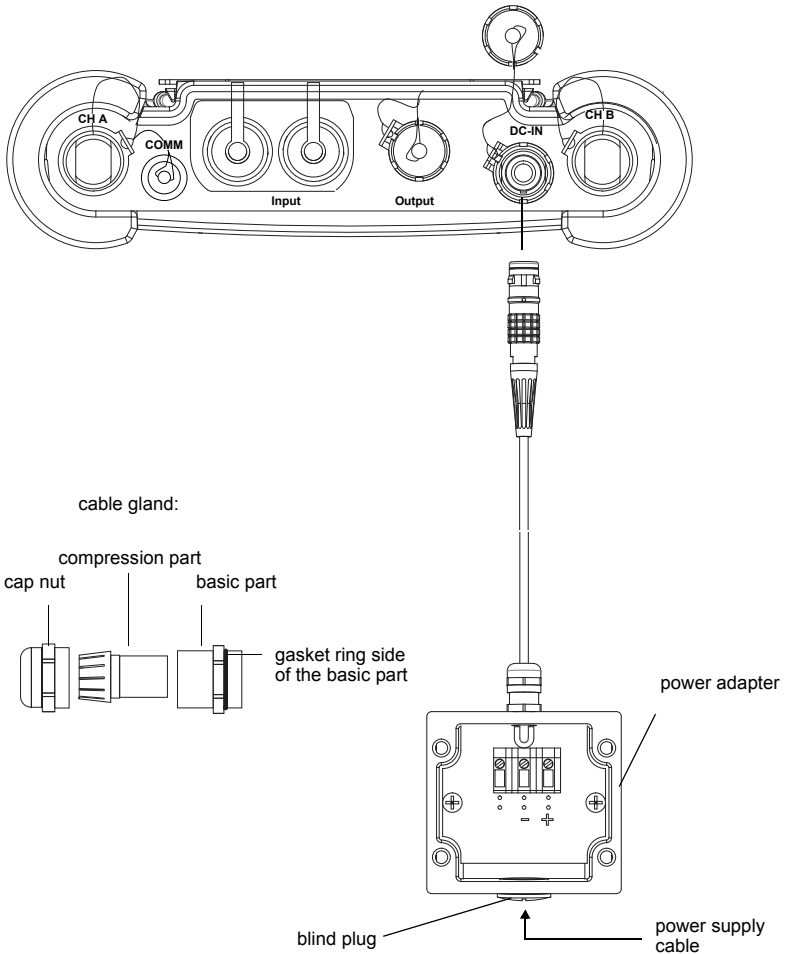

Fig. 7.13: Connection of the power adapter to the transmitter FLUXUS F608**-A2
- Remove the blind plug (see Fig. 7.13).
- Push the cable through the cap nut, the compression part and the basic part of the cable gland (see Fig. 7.13).
- Connect the cable to the terminals of the power adapter (see Fig. 7.13 and Tab. 7.1).
- Connect the connector of the power adapter to the socket of the transmitter (see Fig. 7.13).